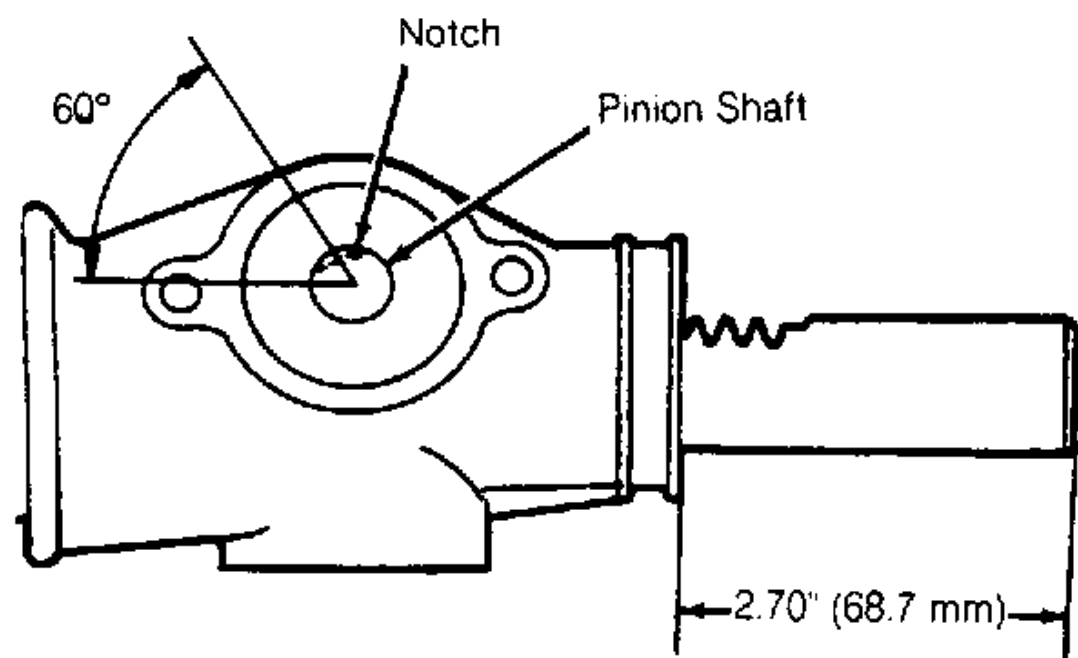

Fig. 2: Installing Pinion Shaft (Capri)
6. Stake nut to pinion shaft. Install pinion shaft into housing with rack extending 2.70" (68.7 mm) out of housing on pinion shaft end or centered in housing. Also, notch on pinion shaft spline must be located 60 degrees from horizontal center. See Fig. 2.